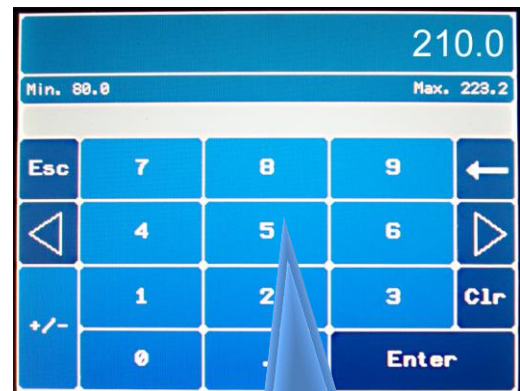

Figure 76
2. Touch the **Actual Product Temperature** on the **Cooking Control** screen, after which a popup window will be displayed. In the popup window, touch the **Temperature Display** (white numbers) to display the on-screen numeric keypad. Using the keypad, Fig. 76, type in a temperature much higher than the boiling point for your elevation (for example, 220 °F or 104.4 °C), then press the **Enter** button which closes the window and then press the **Accept** button on the popup window. Press the **Exit** button to exit without changes.